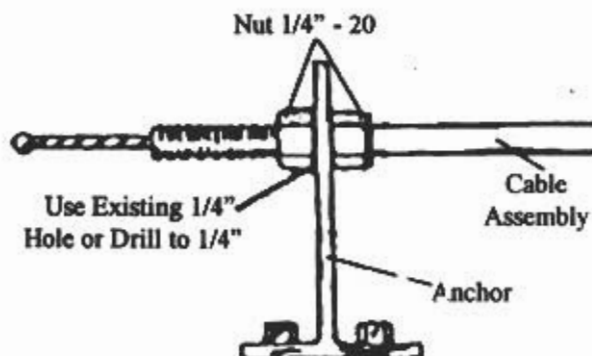

FIGURE 26
5. The 1/4" - 20 Nut can also be used if there is a pre-existing 1/4" hole in a bracket on the vehicle or if it is possible to drill a 1/4" hole in a bracket on the vehicle. (Figure 26)